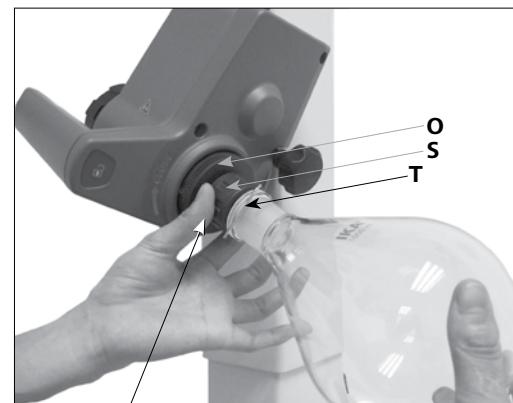

Fig.15b
- Turn the plastic nut (**S**) with the clip (**T**) counterclockwise until the clip can be put on the flange. (Fig. 15b)